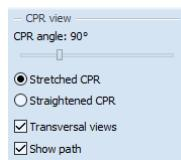

Figure 309 – CPR view settings
- To change the position of the transversal views along the curved plane, drag and drop yellow intersection line belonging to the central (B) transversal view.
- To show/hide CPR path, check/uncheck the **Show path** check box in the **CPR view** part in the **CPR tool** (see Figure 309).
- To change the current CPR projection, click **Stretched CPR** or **Straightened CPR** radio button in the **CPR view** part in the **CPR tool** (see Figure 309).
Transversal views can be hidden anytime by unchecking **Transversal views** check box in the **CPR view** part in the **CPR tool** (Figure 309).